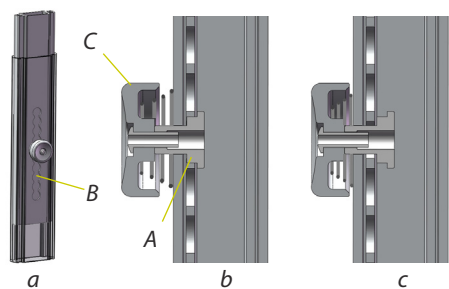

Fig 29
The mechanism that controls the height adjustment of the armrest consists of a spring-loaded pin (A, fig 29) that locks in a number of holes in the inner profile (B). When the button (C) is pushed in (fig 29c), the pin is released and the profiles can slide over each other, and when the button is released the pin locks (fig 29b) in the current position. The button is permanently attached with a rivet.